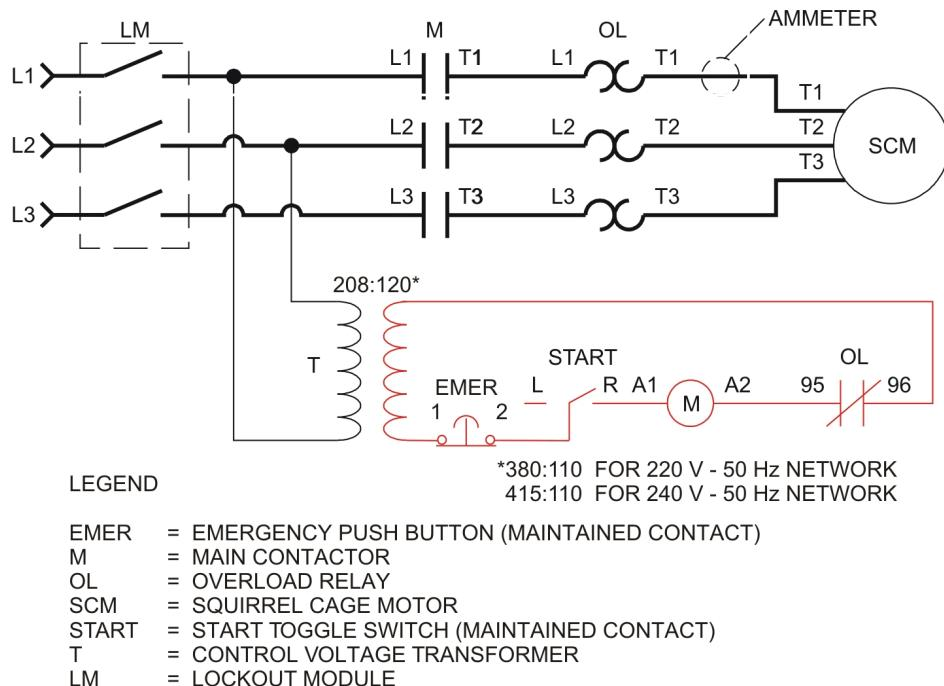

Figure 3-5. Motor circuit with Control Transformer.
Figure 3-5 is the schematic diagram of a separate motor control system. In this diagram, the control circuit is isolated from the power lines because of the control transformer, which takes voltage between two power lines to provide low control voltage. When power is applied to the circuit and the toggle switch is set to the START position, the contactor coil (M) is energized, actuating power contacts. If the NC overload contacts or the toggle switch opens, the contactor coil (M) is de-energized and the power contacts are opened.
- 2. Connect the Control Transformer to the Lockout Module as shown in Figure 3-5. Do not connect the other components at this moment.
Connect the circuit shown in Figure 3-5. Use the toggle switch O-R contact of the Selector Switches module.